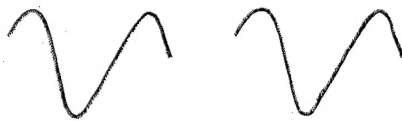

Figure 12
- If fail the above adjustment, the waveform should obtain as figure 12.